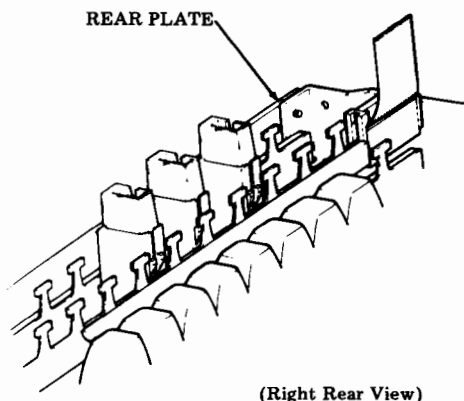

Fig. 16—Cable Removal
- (g) Remove rear plate (Fig. 16).
- (h) Slide cable to the right until it clears the circuit card. Remove through opening between channels (Fig. 16).